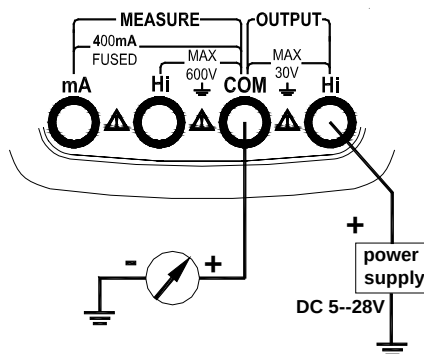

Figure10. Simulating Transmitter output
1. Insert one end of the test lead into the **Hi** (OUTPUT) jack and **COM** jack of the meter and connect the other end to the input of the user’s instrument as shown in the Figure 10: